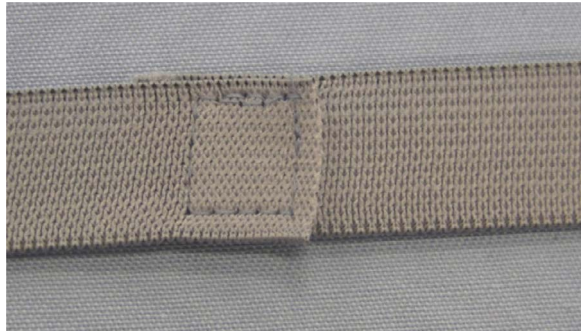

Figure 12
2. Using the Lockstitch (301), overlap and join the ends of the elastic to form a circle (see Figure 12).